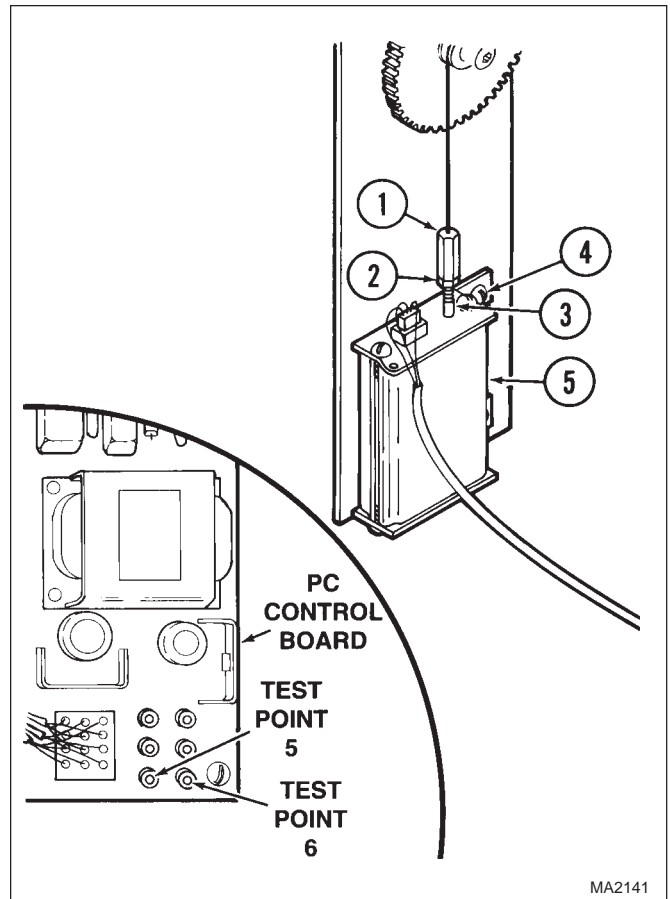

Figure 4-15. Base Transducer Adjustment
- (1) Remove electrical cover (Refer to para 4-4).
- (2) Lower the bellows assembly (Refer to para 4-3).
- (3) Plug the positive probe of the multimeter into Test Point 5 and the negative probe of the multimeter into Test Point 6 of PC control board. See Figure 4-15.
- (5) While holding cable/turnbuckle assembly (1, Figure 4-15), loosen nut (2).